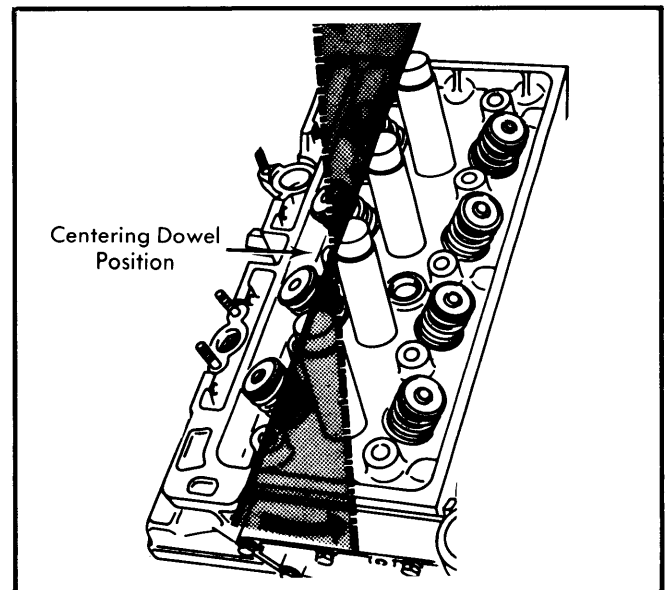

Fig. 1 Rotating Cylinder Head Around Centering Dowel
4) Unstick cylinder head from block by rotating cylinder head around centering dowel on distributor side. Tap each end of cylinder head with a plastic mallet on each side. See Fig. 1. DO NOT merely lift off cylinder head.